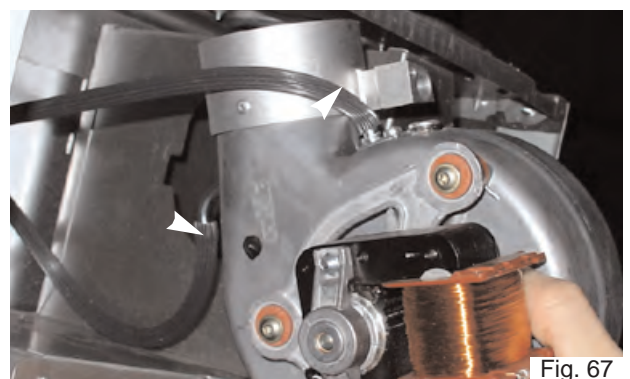

Fig. 67
5. Disconnect the pressure pipes noting positions (see Fig. 67);